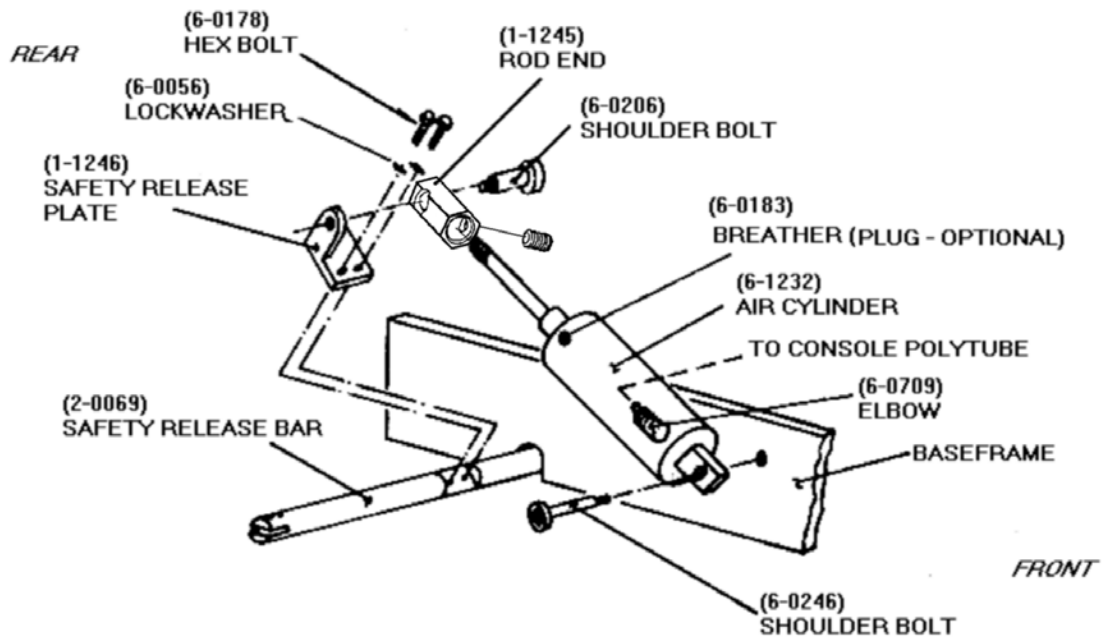

Figure 7 – Air Operated Mechanical Safety Release (Left Baseframe)
3. Install the rectangular safety release tab using one (1); 1/4" - 20UNC x 3/4"lg. cap screws. The safety release tab screws to the surface of the safety release rod located under the mechanical safety locks.
4. Using Figure 7, attach the rod end to the air cylinder, and assemble it to the safety release plate using the shoulder bolt supplied in the hardware kit. Connect the safety release plate to the safety release rod using two (2) hex bolt and lockwashers.
5. Assemble the breather and 90° elbow to the air cylinder as shown in Figure 7. Attach the air cylinder to the baseframe using the shoulder bolt provided.
1. Route the 30' polytube next to the hydraulic hoses to the inlet of the lift, through the left baseframe assembly and into the 90° elbow attached on the air cylinder. Refer to Figure 7.
4. **FOR THOSE UNITS EQUIPPED WITH SLIDING JACK BEAM(S) NOW IS THE TIME TO INSTALL THE JACK(S).** Lower lift and consult instructions supplied with each Jacking Beam.